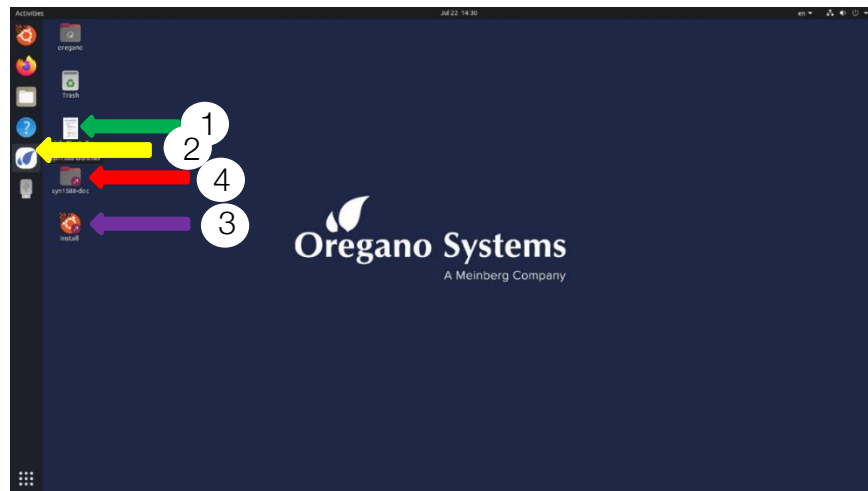

Figure 3: syn1588® Linux Live System Desktop
1. **Green Arrow Figure 3:** This document provides a good entry point for using the syn1588® Live System together with the syn1588® PCIe NIC and Dual NIC.
2. **Yellow Arrow Figure 3:** The syn1588 launcher can be used to start some of the syn1588® Software Suite applications for testing basic operation (e.g., testing PTP synchronization).
3. **Purple Arrow Figure 3:** Via this icon you can install the syn1588® Linux Live System on your PC. This installation will include the same functionality as the syn1588® Linux Live System itself (e.g., Linux driver installed for syn1588® PCIe NIC and Dual NIC)
4. **Red Arrow Figure 3:** Follow this link to access the extensive documentation. This will open a file browser for the directory /opt/oregano/doc which contains the syn1588® user guide and various application notes.